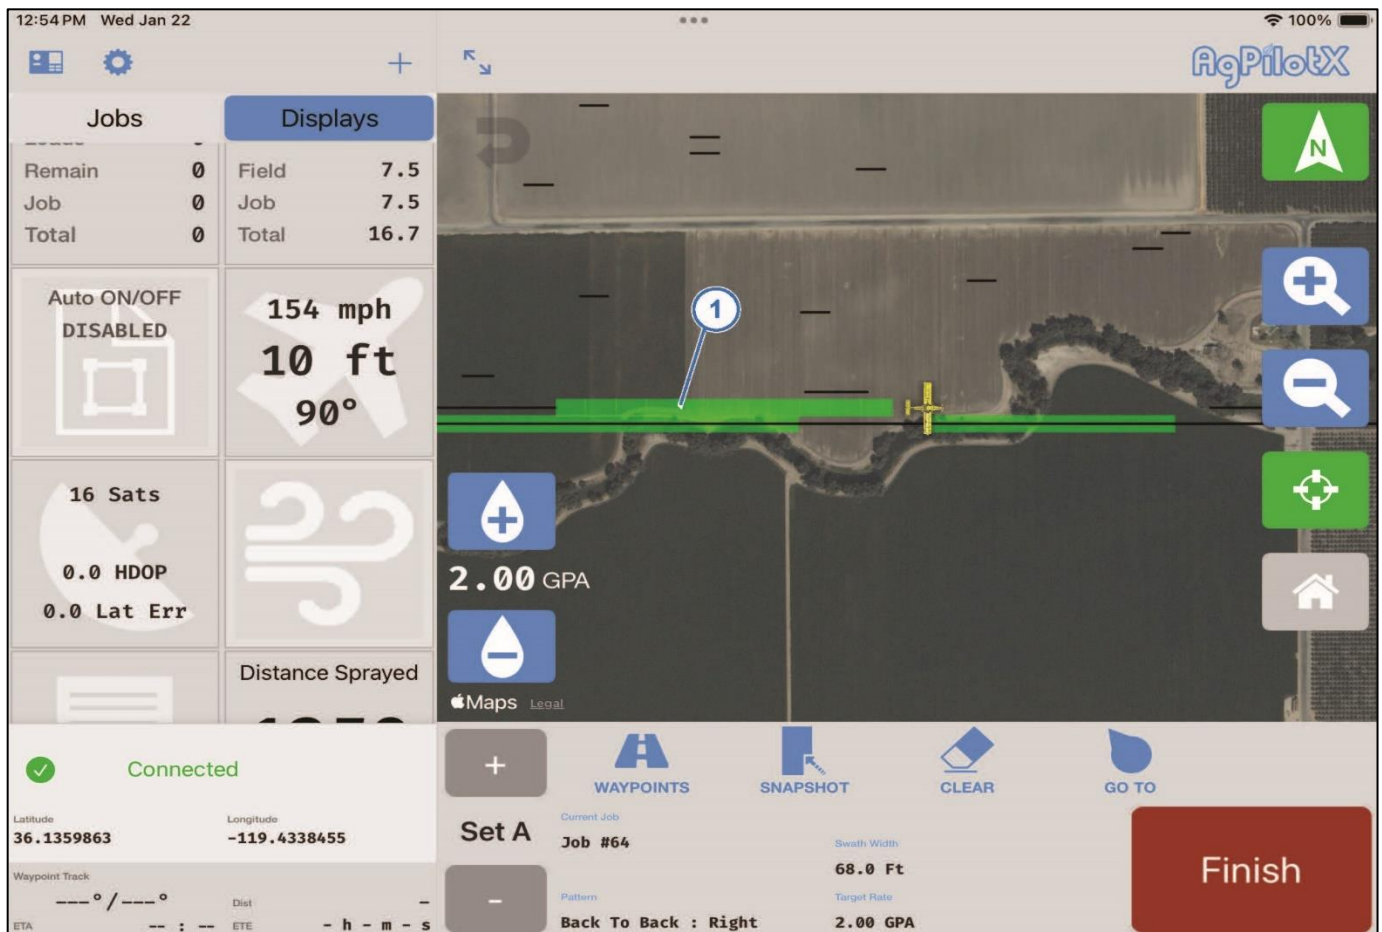

Figure 6: Full Boom Spray
- The spray pattern should reduce to half-width (1).
- **HALF BOOM** should display at the top of the screen (2).
- The spray pattern should return to full width (Figure 6, Item 1).